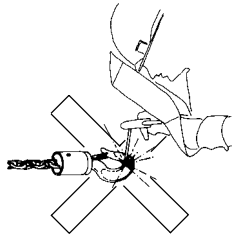

Fig. 2
- Welding on hook and load chain is strictly forbidden. The load chain must never be used as ground connection during welding (Fig. 2).